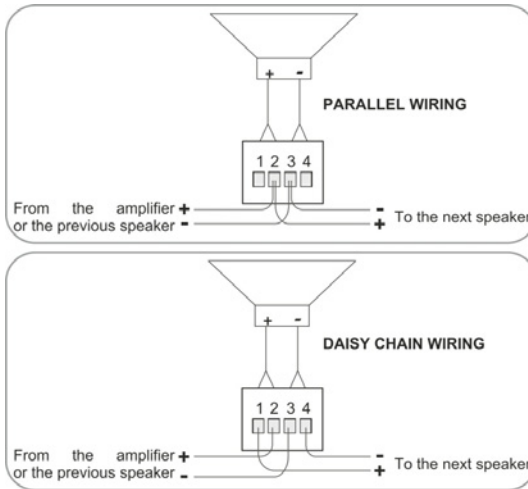

Figure 3: SPK-C612 Schematic Diagram
Figure 3 shows a schematic diagram of the **SPK-C612**:
- **Wiring in parallel:** connect the wire pair of the subsequent speaker to PIN 2 and PIN 3. When one input connector is removed, subsequent speakers will remain connected (see Figure 3)
- **Daisy-chaining:** connect the wire pair of the subsequent speaker to PIN 1 and PIN 4. When one input connector is removed, subsequent speakers will be disconnected (see Figure 3)